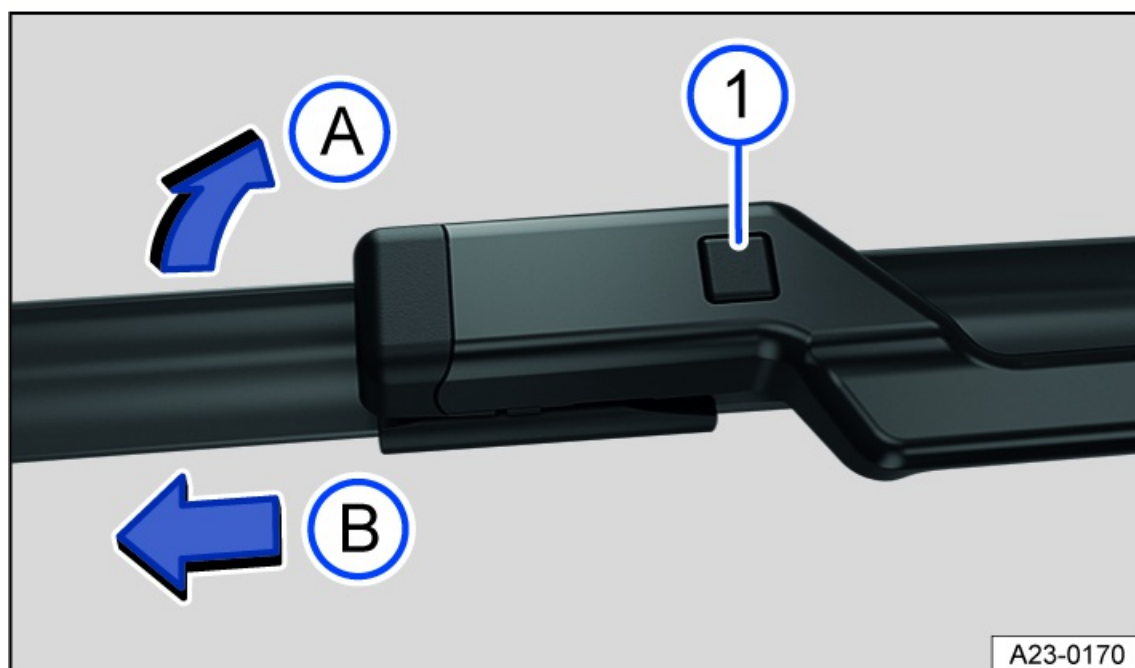

Fig. 188 Changing the windshield wiper blades.
① Wiper blade release button.
3. Press and hold the release button *fig. 188* ①.
4. Tilt the wiper blade toward the wiper arm *fig. 188* A while removing it in the direction of the arrow B. You may need to use more force to do this.
5. Slide a new wiper blade with the same length and design onto the wiper arm in the opposite direction to the arrow until it engages *fig. 188* B. For this to work, the wiper blade has to be folded out *fig. 188* A.